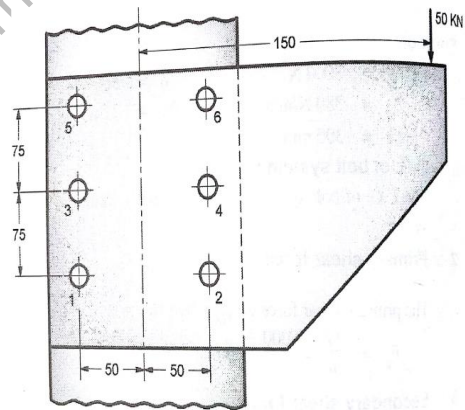

Fig:2
- (c) As per figure 2. A bracket is bolted to column by 6 bolts arranged in two columns. The distance between bolts along the row is 75mm and along the column 50mm. The joint is subjected to maximum eccentric force of 50kN acting at 150mm away from the centre of column. Taking allowable stress in the bolt as 150N/mm², Determine the size of each bolt. 07